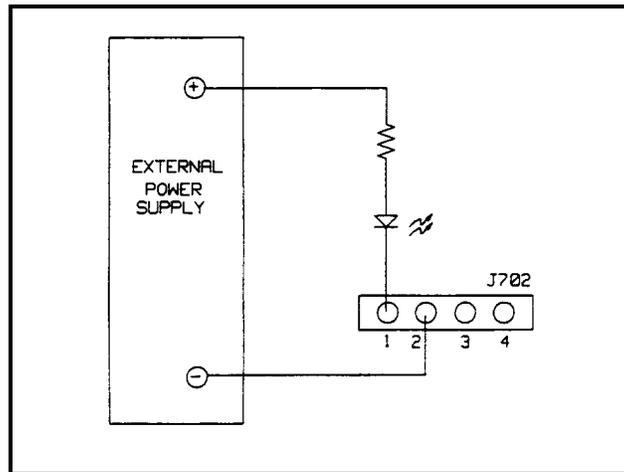

Figure 6a. FLT Test Setup
- Connect the LED, resistor, and external 5V power supply to pins 1 and 2 of J702 as shown in Figure 6a, and turn on the 662x power supply. The LED should be off.